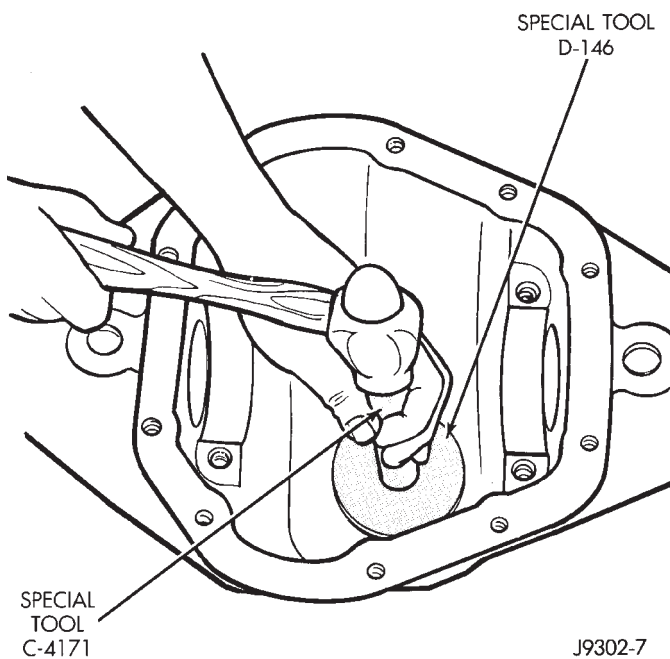

Fig. 49 Pinion Rear Bearing Cup Installation
(1) Place the shims (and baffle if equipped) in the pinion gear rear bearing bore. Install the bearing cup with Installer D-146 and Driver Handle C-4171 (Fig. 49). Ensure cup is correctly seated.